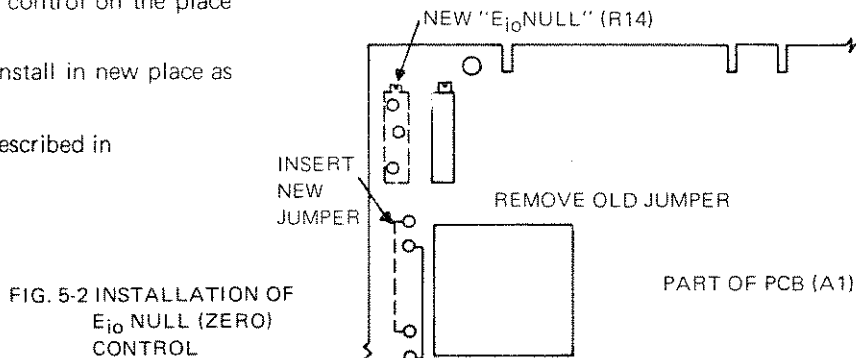

FIG. 5-2 INSTALLATION OF  $E_{iO}$  NULL (ZERO) CONTROL
- Remove thy PCB Assembly from the chassis as described in paragraph 5-3. Locate the pre-designated space for the additional components on FIG. 5-2.